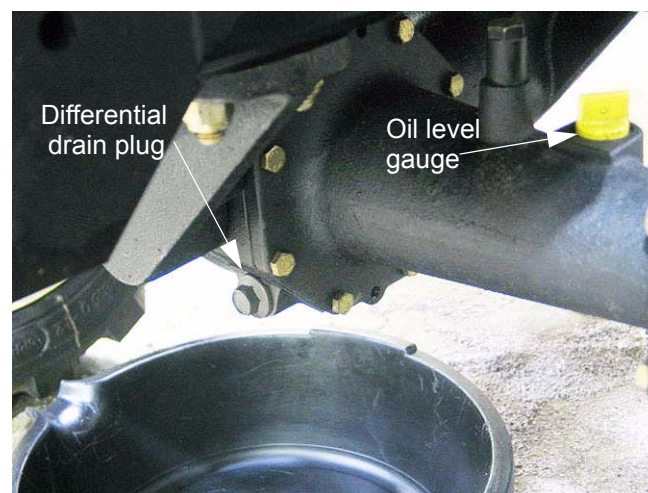

Figure 2.3
- 2.3. Place a drain pan under the differential housing, and remove the drain plug using a 16 mm wrench. Remove the oil level gauge to allow faster draining. See Figure 2.3.